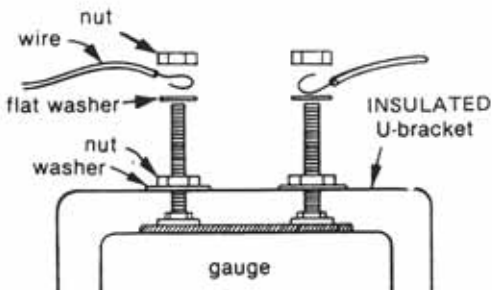

FIGURE 7
1. Add a flatwasher and a nut to each post at the back of the gauge as shown in Figure 7.
2. Connect insulated wires (18 gauge or larger recommended) between the washer and the last nut on each post (Figure 7).